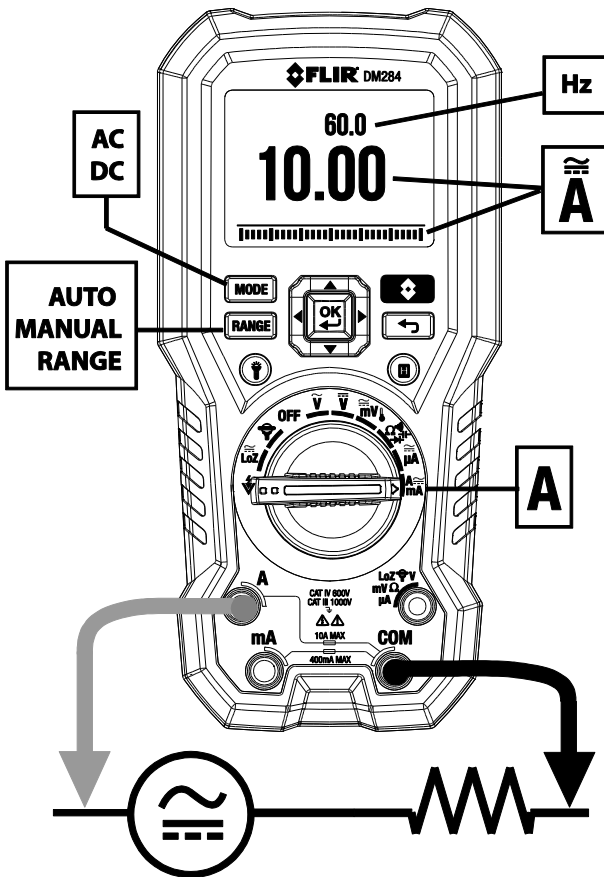
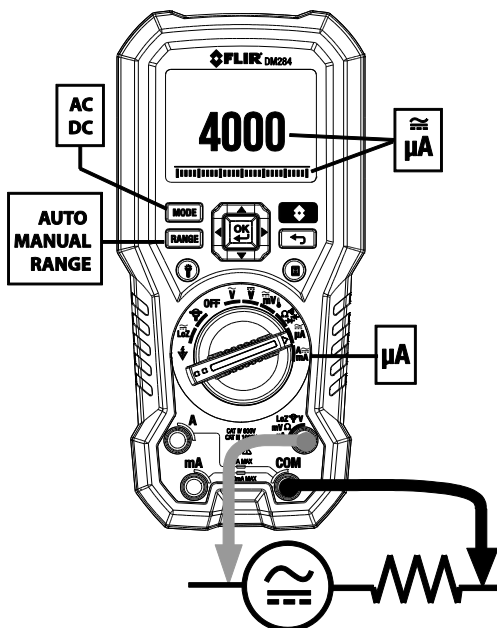

Fig. 7-9 High Current 'A' Measurements
Fig. 7-11  $\mu A$  Current Measurements
4. Connect the probe leads in series with the part in accordance with **Fig. 7-8** and **Fig. 7-9** for 'A' measurements, **Fig. 7-10** for mA measurements, or **Fig. 7-11** for  $\mu$ A measurements.